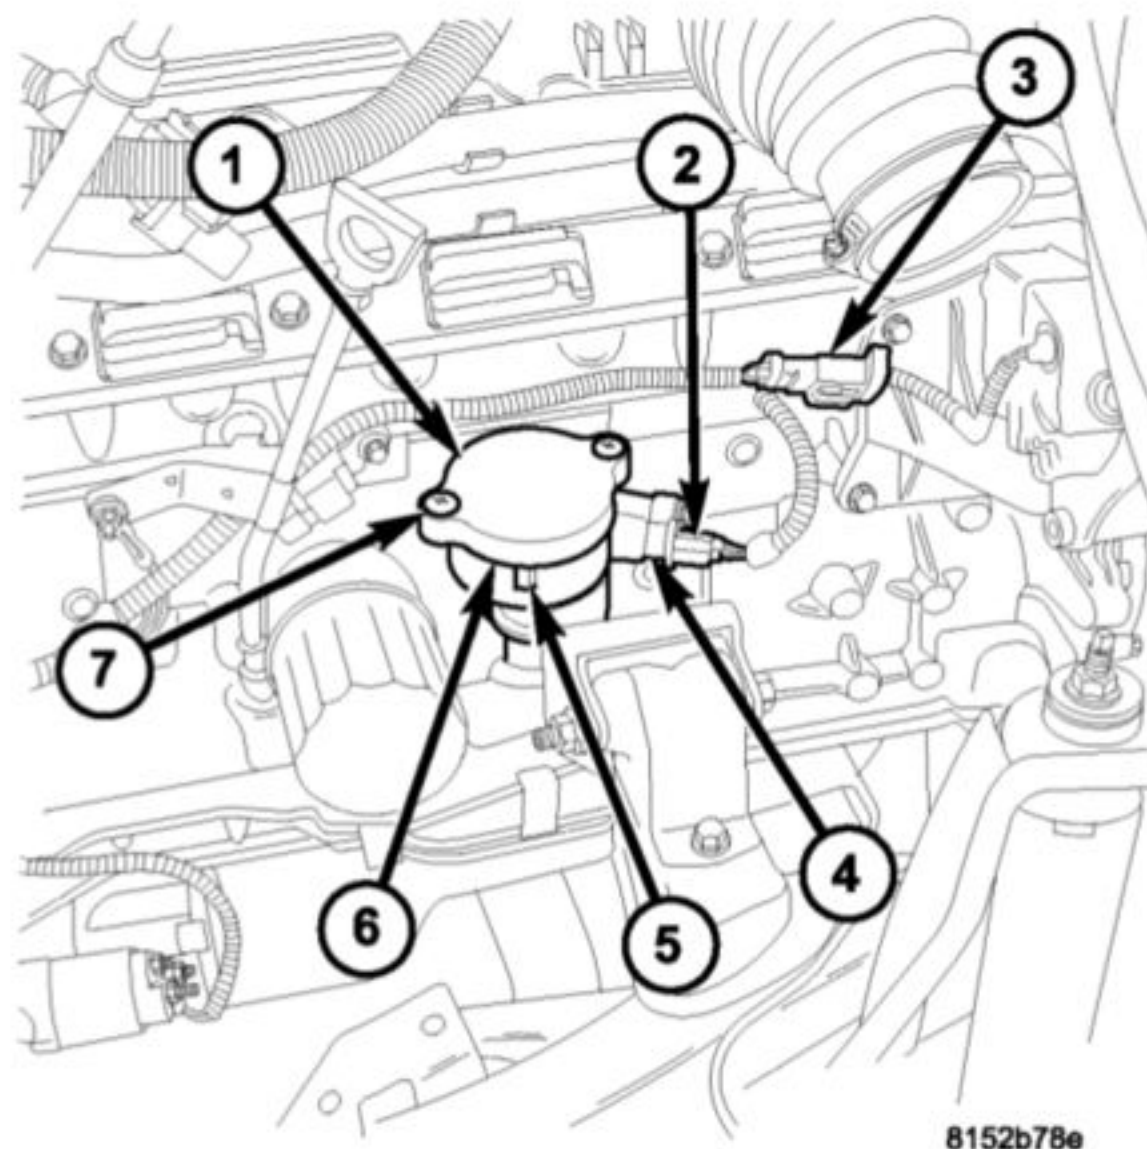

Fig. 14 4.0L CMP LOCATION ('05)
- (1) Disconnect CMP electrical jumper harness (3) at engine wiring harness (Fig. 14).